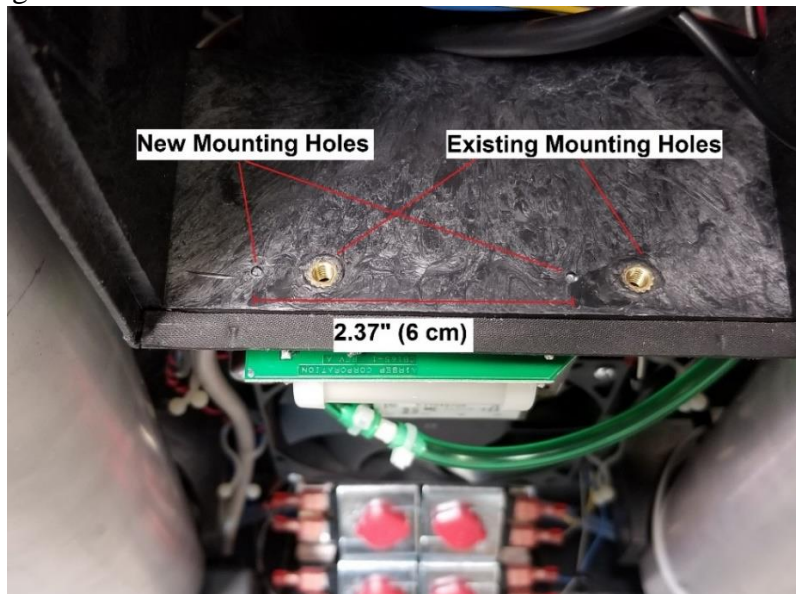

Figure 8. New Board Mounting Holes
17. Hold EQ valve out of the way and drill two holes with a 3/32" (2.4 mm) bit for the new O2 monitor board (CB196-1). The holes should be 2 3/8" (6 cm) apart and in line with the existing mounting holes. See Figure 8